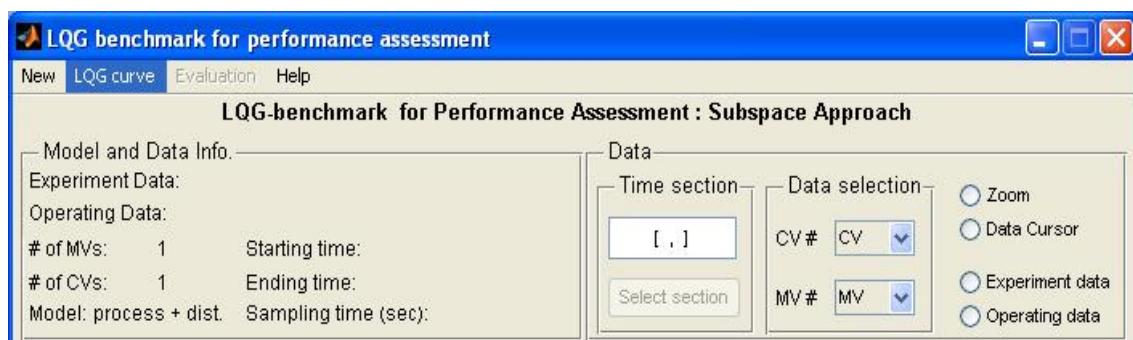

Figure 3: TF model loaded in
- 8) To perform one of the tasks (a) – (d) of section 5, use the “LQGcurve” or “Evaluation” menu to upload model or data. When model or data is uploaded, the corresponding information about it will be shown in the ‘Model and Data Info.’ panel (see Figure 3 and 4).